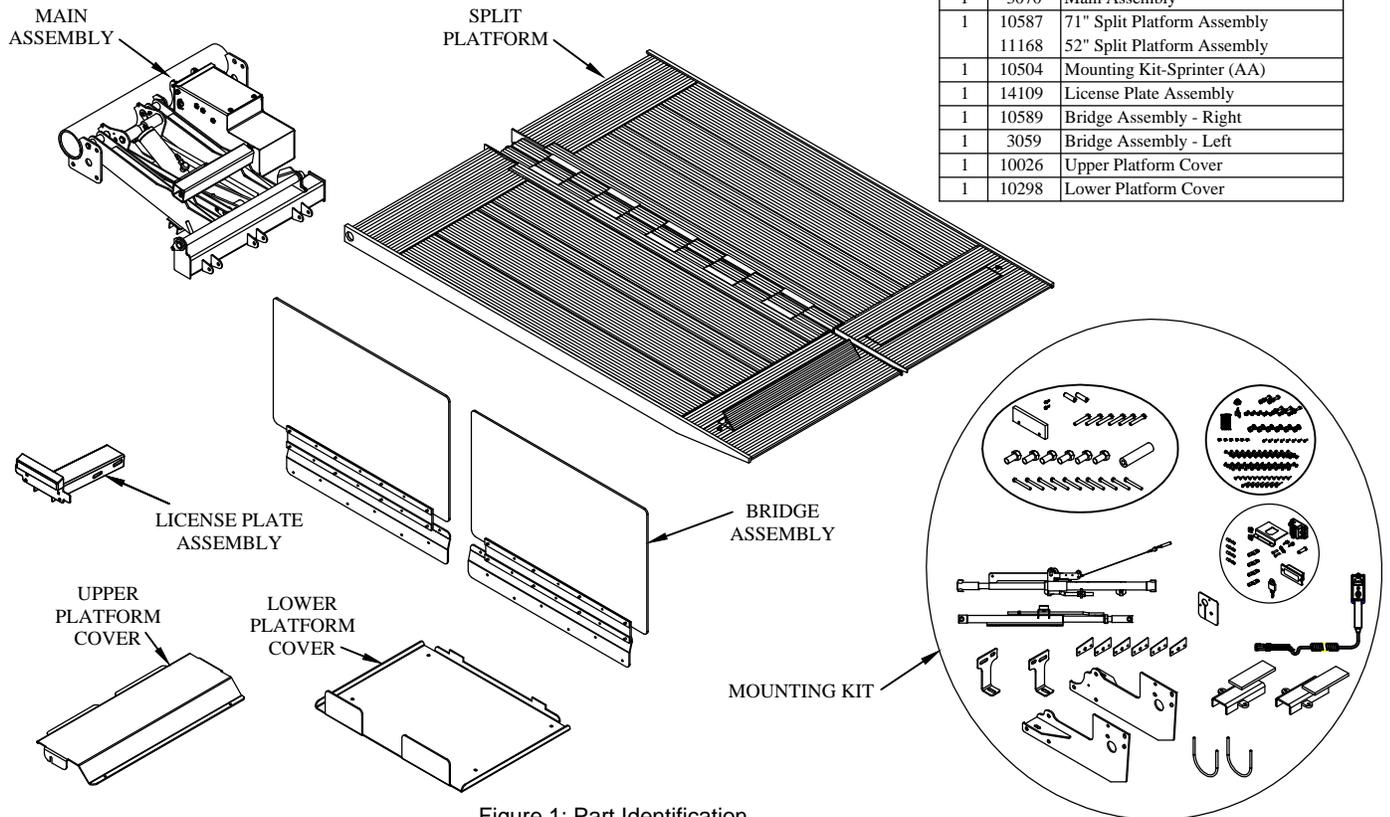

Figure 1: Part Identification.
- Verify** mounting kit, liftgate, and other components (Figure 1 and Table 1).